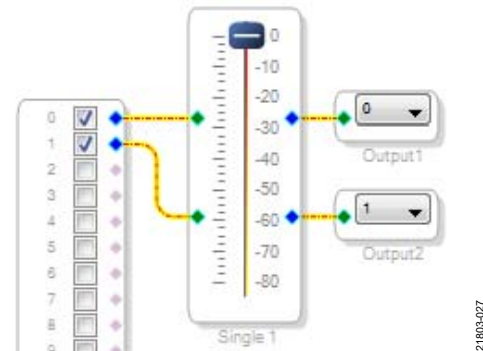

Figure 27. Completed Signal Flow with Volume Control
- Connect the blocks as shown in Figure 27.
After performing these steps, the schematic of the completed signal flow (see Figure 27) is ready to be compiled and downloaded to the evaluation board.
- The signal flow runs on the EVAL-ADAU1452REVBZ board and the audio passes from the analog input to the analog output. To change the volume in real time, click and drag the volume control slider in the **Single1** block in the **Schematic** tab (see Figure 27).